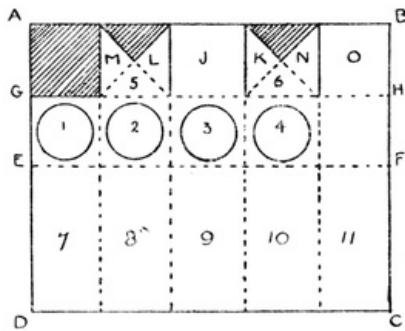
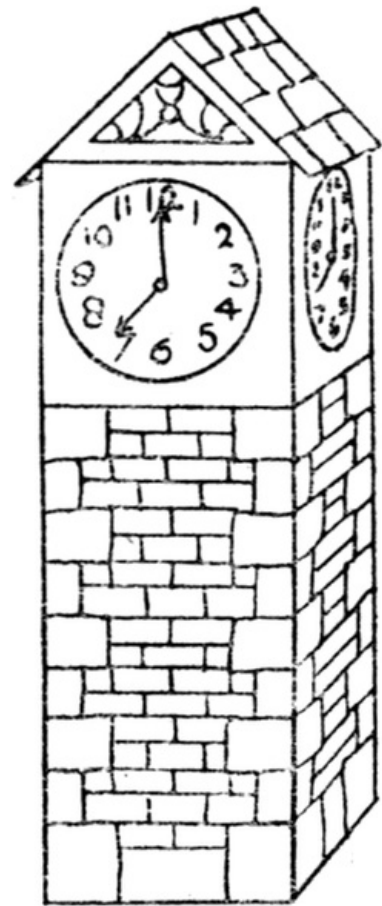

FIG. 68
FIG. 69
bricks on the sides 7, 8, 9, 10; side 7 is gummed over 11, which, therefore, is not seen (Fig. 69).
**A Clock Tower** (Fig. 69). Begin with an oblong 10 inches by 6 inches. Fold in eight parts, and cut off three. Fold the remaining portion A B C D in half along E F; fold A F in half along G H. Fold along as in Fig. 68. Draw clock faces in squares 1, 2, 3 and 4, a pattern of some kind in triangles 5 and 6, and mark